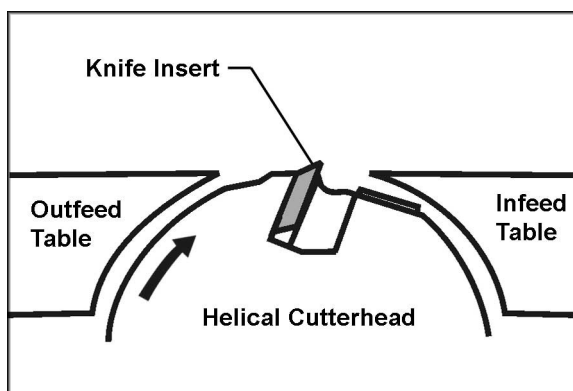

Figure 21
4. Flip the knife insert 180 degrees and place it onto the two pins of the gib. Make sure the knife edge faces the proper direction (see Figure 21).